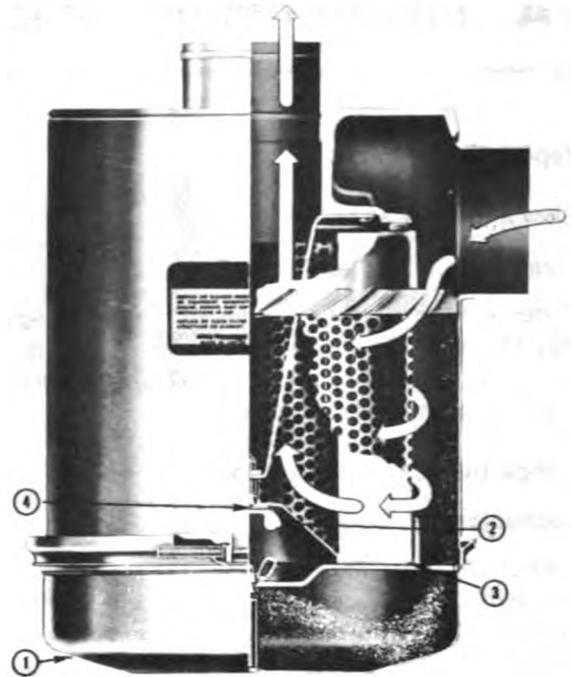
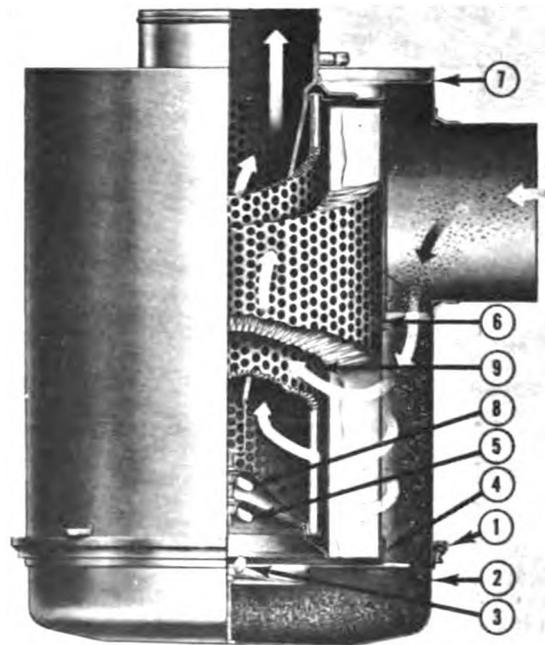

Fig. 2-11. (OM1028L). Air cleaner—heavy duty
Fig. 2-12. (OM1030L). Air cleaner—heavy duty dual element
1. Loosen the wing bolt, remove the band securing the dust pan (1, Fig. 2-11), (2, Fig. 2-12).
2. Loosen the wing nut (2, Fig. 2-11 and 3, Fig. 2-12), remove the dust shield (3, Fig. 2-11), (4, Fig. 2-12), from the dust pan (1, Fig. 2-11), (2, Fig. 2-12), clean the dust pan and shield.
3. Remove the wing nut (2, Fig. 2-11), (5, Fig. 2-12) securing the air cleaner primary element (6, Fig. 2-12) in the air cleaner housing, inspect the rubber sealing washer on the wing nut (4, Fig. 2-11), (5, Fig. 2-12).
- a. Check the air restriction indicator. If the air restriction is excessive, disassemble the air cleaner, remove the wing nut (8, Fig. 2-12), and replace the safety element (9).